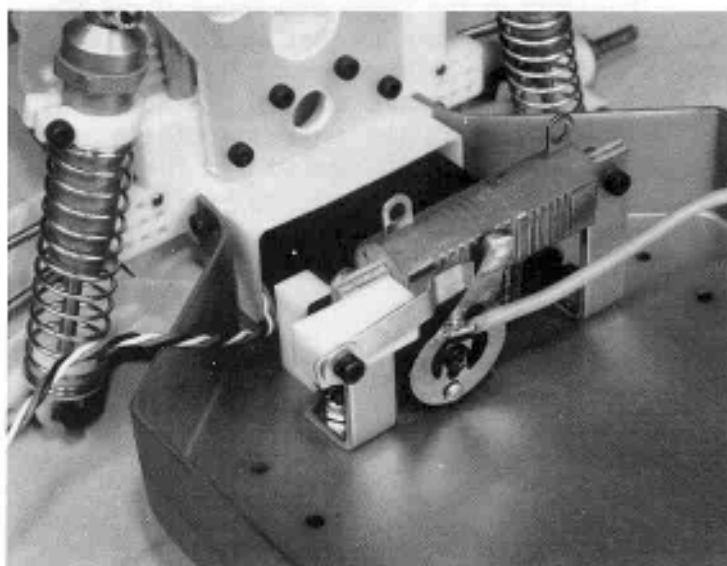

Fig. 169
-169- Follow steps 160 and 161 to install the throttle resistor, but make the following exceptions: the resistor brackets should be turned 180 degrees, so that they look like Fig. 169. Mount the resistor BEHIND the brackets instead of in front; and use the **thin** bypass mount (with the rounded edges). When assembled check for proper wiper pressure as in step 163 and complete the wiring in step 162.